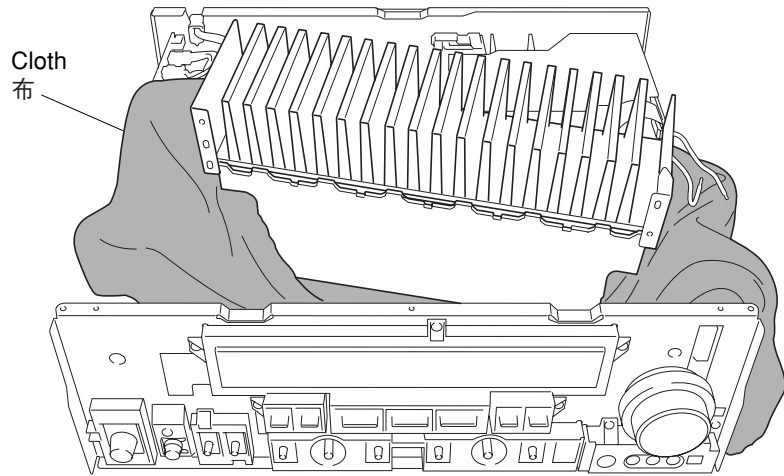

Fig. 6
- Put a Cloth over the equipment. Put the MAIN (1), (5), (7) and POWER (1) P.C.B.s together with the heat sink upright on the Cloth and check them. (Fig. 6)